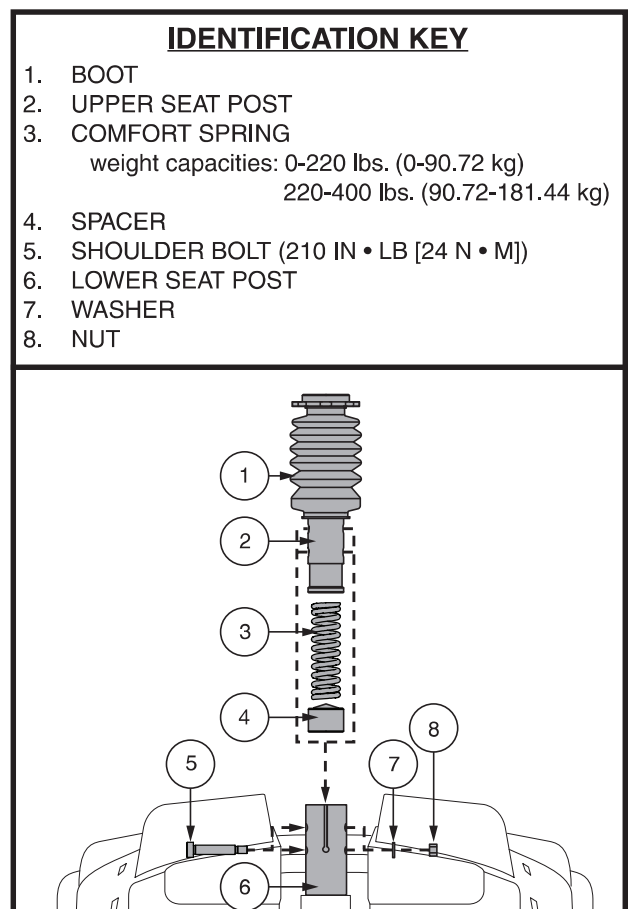

Figure 22. Seat Height Adjustment - Comfort Seat Post
4. Push down on the seat post while loosening and removing the shoulder bolt, washer, and nut. **See figure 22.**
6. Install the desired spring. **See figure 22.**